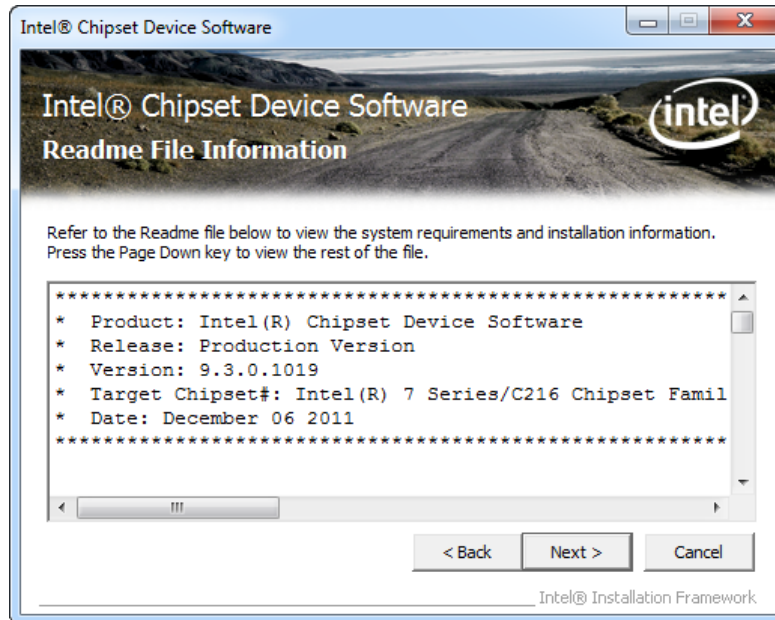

Figure 8-5: Chipset Driver Read Me File
Step 10: The **Read Me** file in **Figure 8-5** appears.